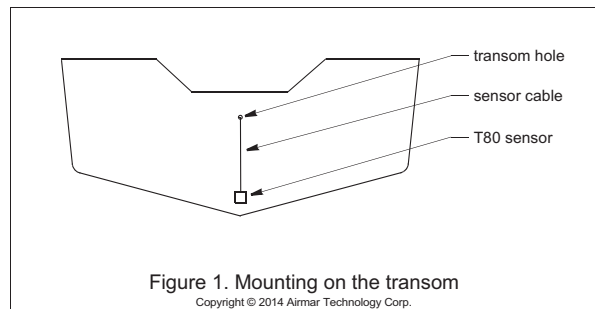

Figure 1. Mounting on the transom
**CAUTION:** Mount the sensor as close to the centerline (keel) of the boat as possible to ensure the sensor remains in the water when the boat is turning (see Figure1).